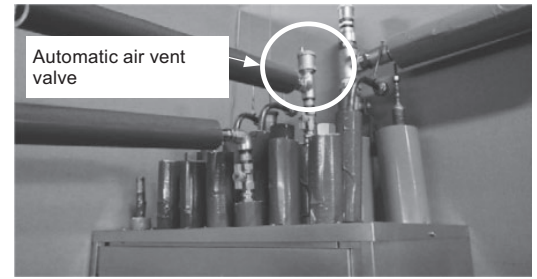

Figure 1. Automatic air vent valve
*2. **Install an automatic air vent valve at the highest point of each branch pipe from the HBC (in two places at the highest point of the return pipe from the Sub-HBC, and in six places at the highest point of the return pipes from indoor units). (See Figure 1.)**